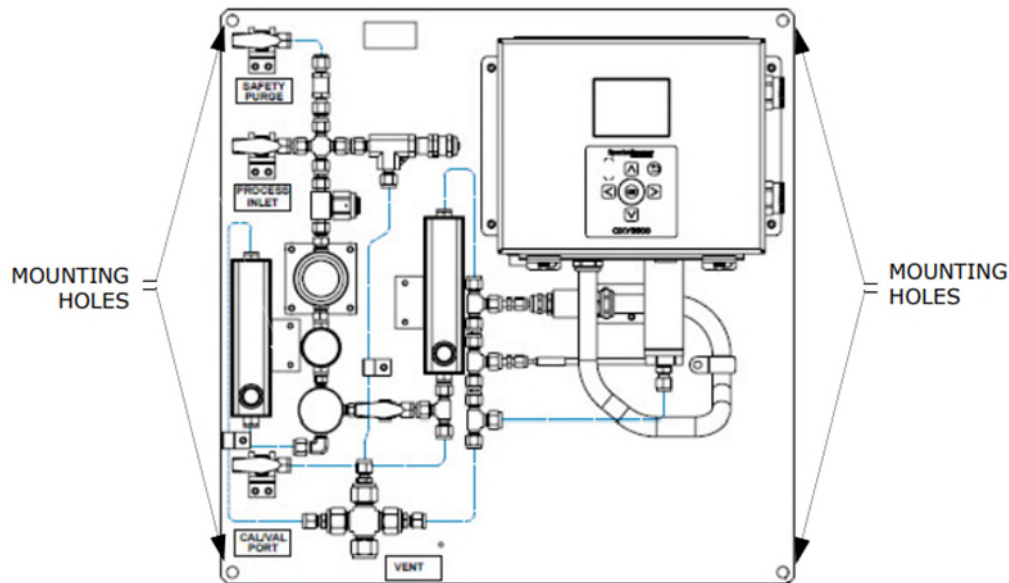

Figure 4. SCS panel mounting locations
2. Locate the mounting holes on your unit. Refer to Figure 4 (panel mount) and the system drawings in Appendix A for your configuration.